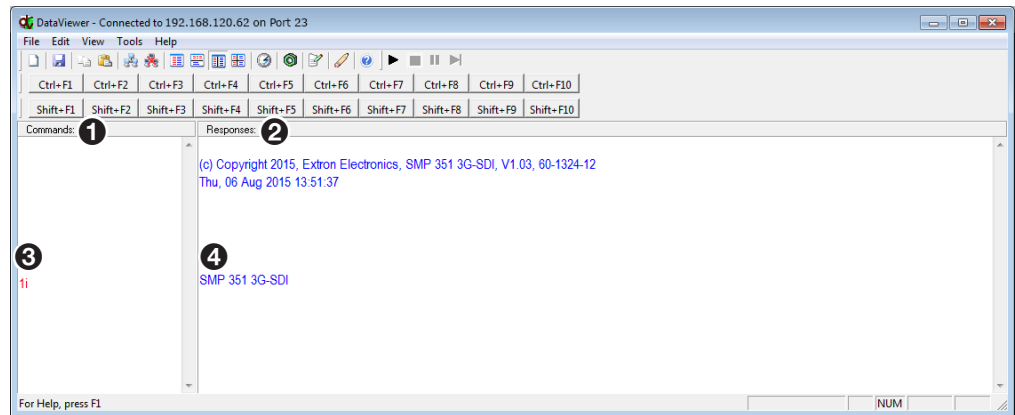

Figure 64. Enter Commands and View Responses
5. The main DataViewer dialog opens and the SMP 351 responds with a copyright statement containing the model number, part number, and current firmware version of the connected SMP 351, along with the date (see figure 64, ②).
6. Use the **Commands** field to enter SIS commands (see figure 64, ①). View the responses in the **Responses** field (②).